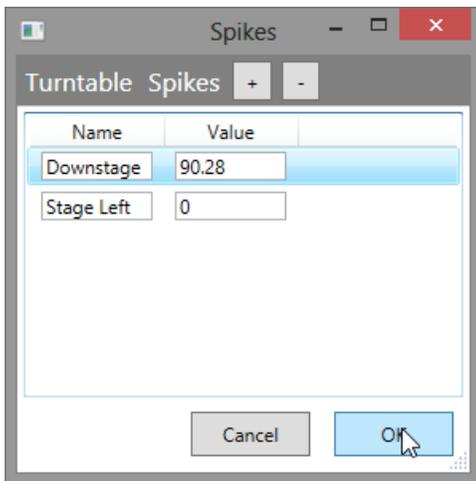

Figure 57
4. Select the *Downstage Spike* to use it in *Cue 1.234* (Figure 57).